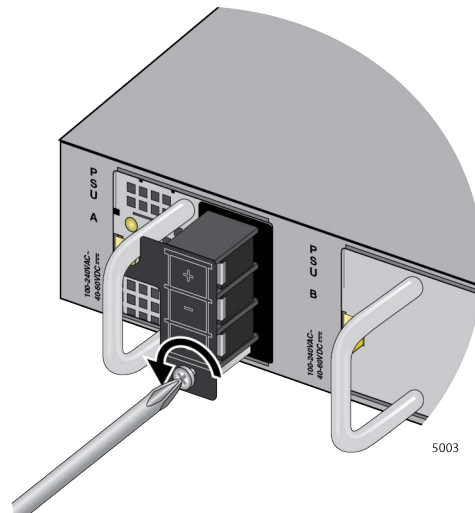

Figure 95. Loosening the Screw for the Panel
2. Loosen the screw for the connector panel several turns with a Phillips-head screwdriver. Refer to Figure 95.